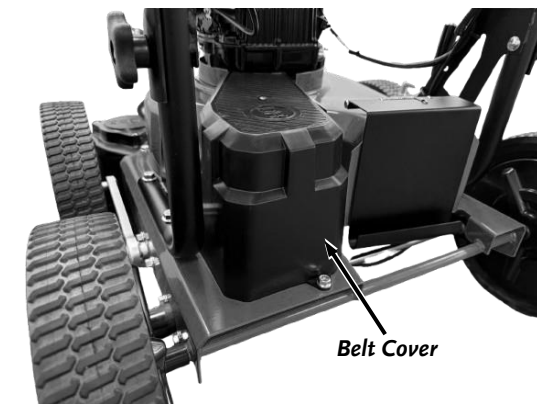

Figure 35
1. Use a 1/2" Wrench to remove the Belt Cover (**Figure 35**).